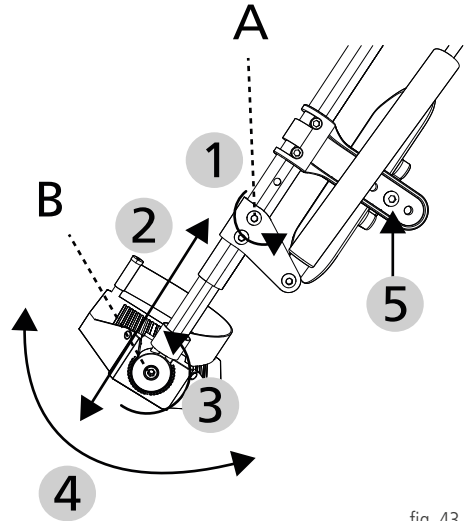
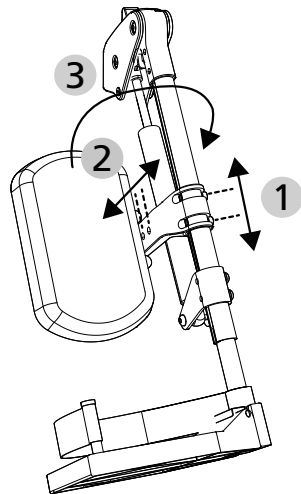

fig. 43
fig. 44
The calf pad have to be installed before using for the first time. Use the enclosed 5 mm Allen screw and nut and install in the third position hole on the calf pad holder (see 5, fig. 43/ fig. 44 s. 36/37).
1. To adjust the length, loosen the Allen screw 4 mm (A, fig. 43) by a few rotations (1, fig. 43), but do not loosen it fully.
2. Then pull/slide the foot plate to the desired length (2, fig. 43). Pay attention to the minimum gap of 40 mm between the foot plate and the ground.
3. To lock it in place, tighten the screw (A, fig. 43) again firmly. Make sure that the screw engages in the interior carriage.
3. Re-insert the foot plate at the desired angle (4, fig. 43).
1. Loosen the 2 Allen screws 5 mm on the holder to adjust the height. Following adjustment, fix the screws back into the hole pattern in 30 mm steps (1, fig. 44).
2. Loosen the Allen screw 5 mm to enable depth adjustment. Following adjustment, fix the screws back into the hole pattern in 20 mm steps (2, fig. 44).
The calf pad can be swivelled outwards with the holder to relieve the calf and give the leg more room (3, fig. 44).